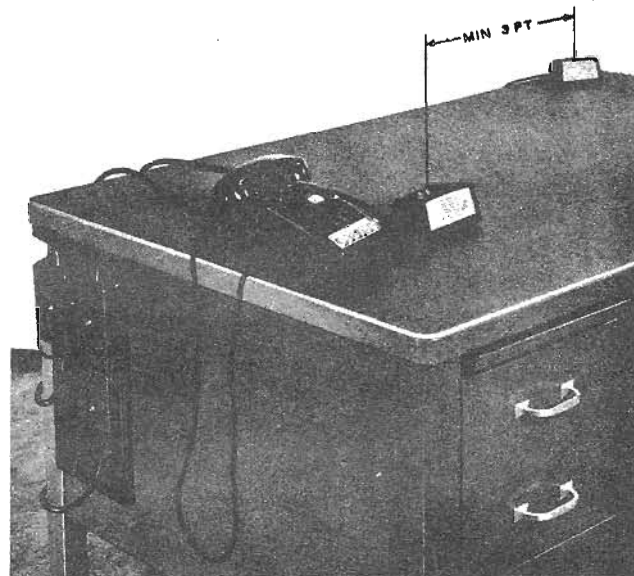

Fig. 2 — General Location of Speakerphone System 1A Components with Key Telephone Set and 656A Transmitter
2.05 It is recommended that the 656A transmitter (Fig. 2) be installed as follows: